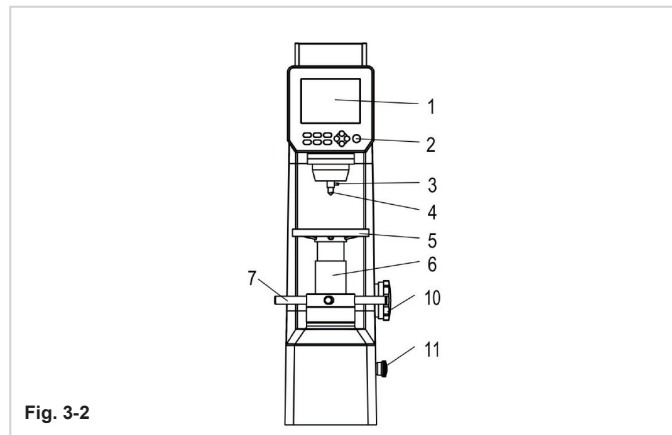

Fig. 3-2
3.4.2 Take the weight group out of the accessories kit and clean them thoroughly. Rotate the Load-Change Hand Wheel (10) to the place number 588, and then take the Hanging Rod (16) from the Back Cover and insert it in the hole of the Weight A (20), fasten the M10 Nut (21) at the tail of the Hanging Rod. Hook the Hanging Rod in the ear of the tail of the Lever (15). And then place the weight B (19) and Weight C (18) separately on two Fork-Shaped Frames (17). At this point, rotate the Load-Change Hand Wheel clockwise for a whole cycle and observe the round pegs on both sides of the Weight and see if they are properly placed in the groove of the Fork-Shaped Frame. The Weights should not touch the inside wall of the instrument body (See Fig 3-2, 3-3).